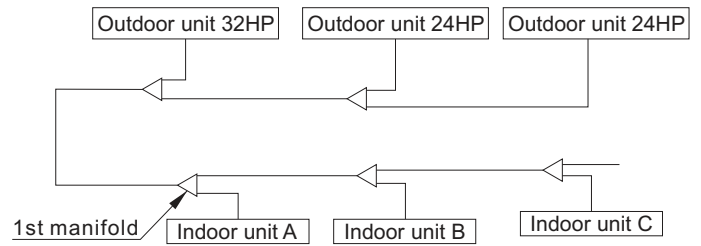

Fig. 3.9 Sequence of outdoor unit
- 1) The unit of 32HP is set at the 1st manifold (see Fig.3.9).